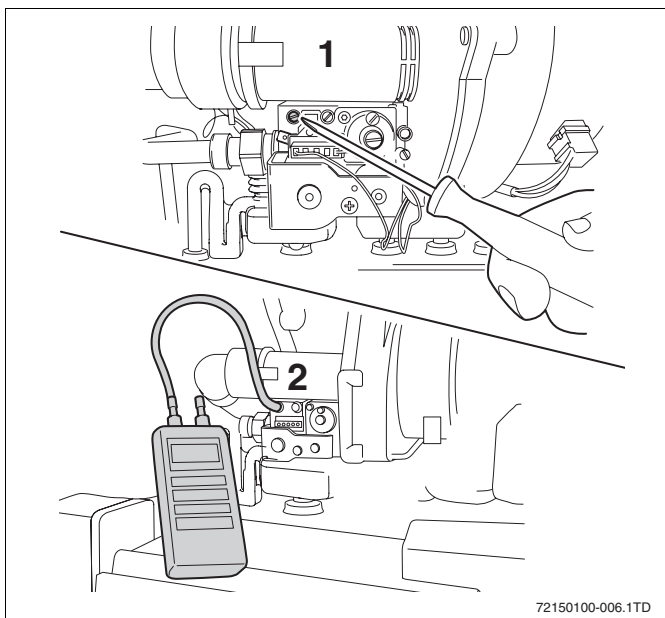

Fig. 6 Measuring the inlet gas pressure
- ▶ Close the gas shut-off valve. Loosen the screw plug on the inlet gas pressure testing nipple by two turns (→ fig. 6, [1]).
- ▶ Connect the pressure gauge connection hose to the testing nipple (→ fig. 6, [2]).